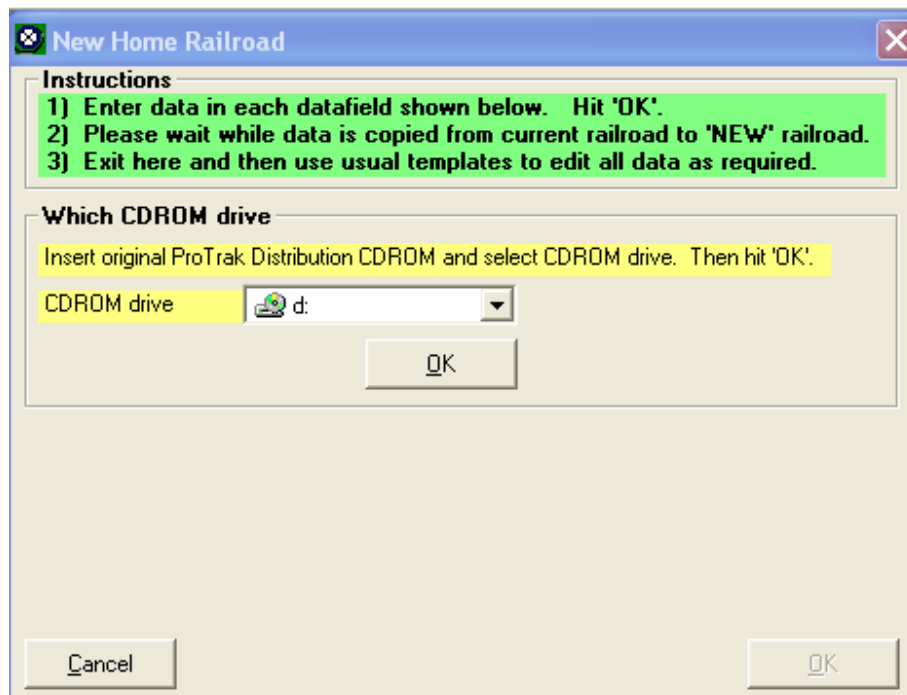

Figure 1-3
- On the ProTrak toolbar, click on "File" then choose "New Home Railroad" from the dropdown list. This will bring up the window shown in Figure 1-3.